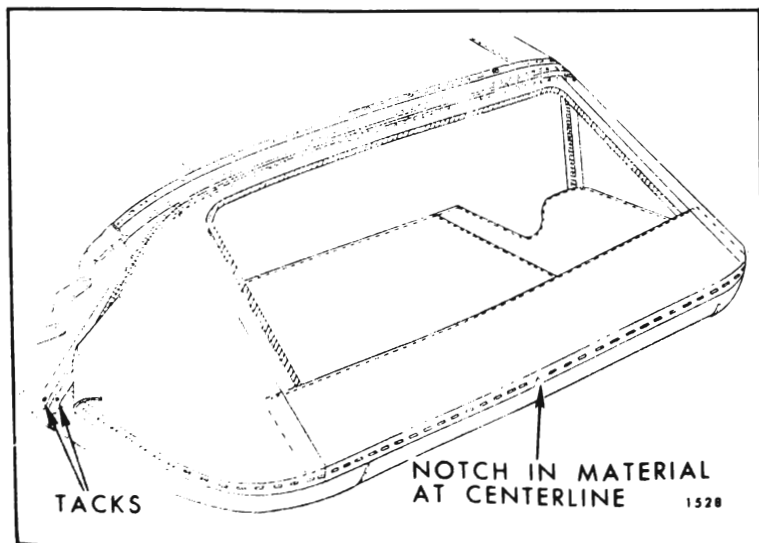

Fig. 6-53—Back Curtain Installation
NOTE: Notch in back curtain material at lower edge indicates centerline of back curtain assembly. (See Fig. 6-53). In addition, back curtain lower edge should extend approximately 1/2" below lower edge of trim sticks.
- Tack curtain to rear and rear quarter trim sticks (Fig. 6-53). On "A & Z" Body Styles